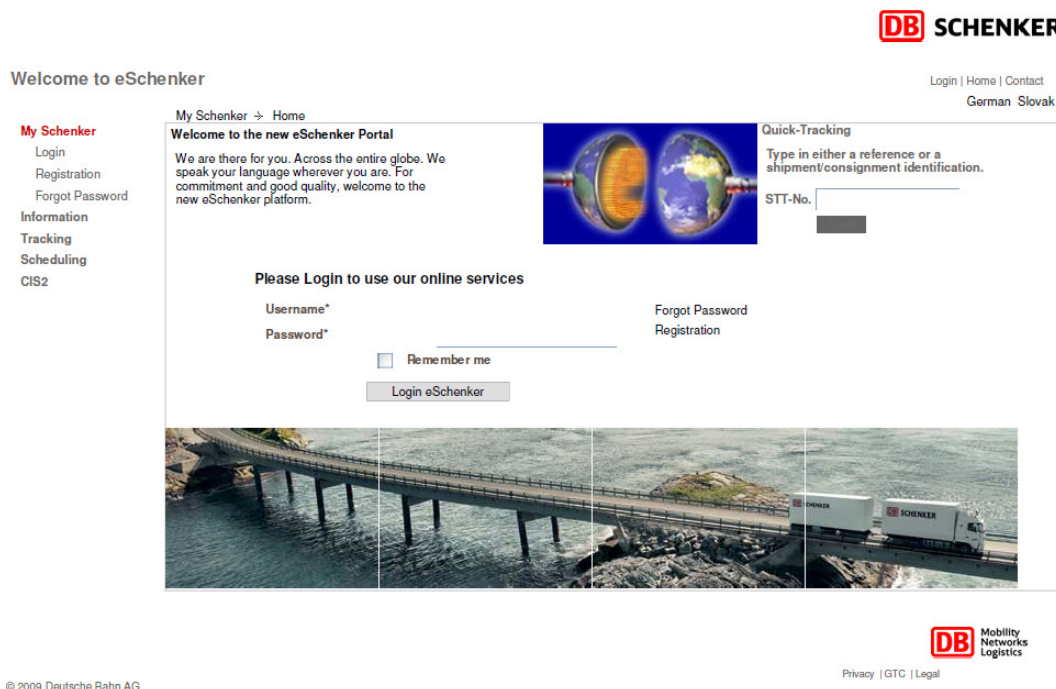

Fig. 4-1: eSchenker "My Schenker" homepage
- Fig. 4-1: "Schenker" homepage**